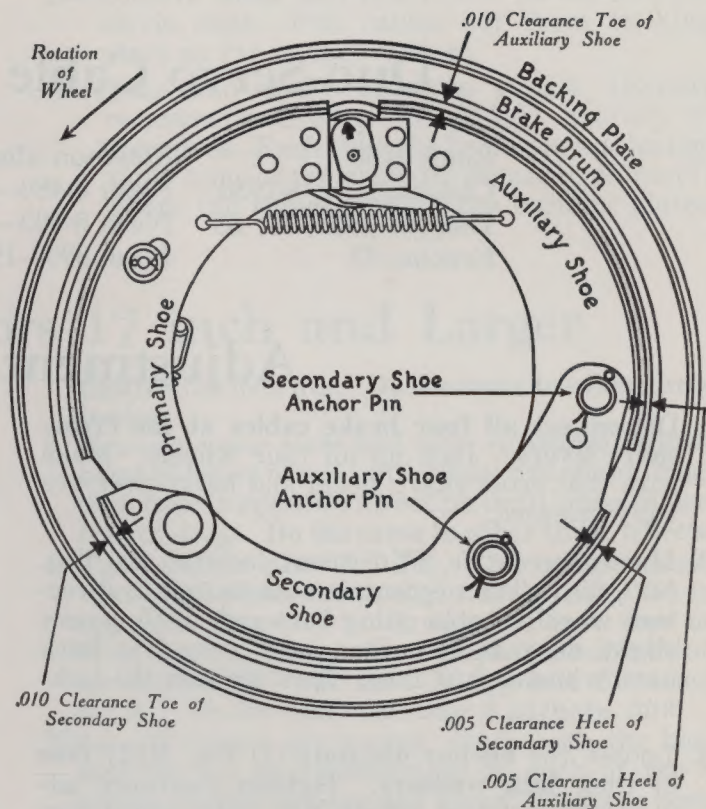

Fig. N21a—Proper heel and toe clearances for best results on most three shoe models
- (c) Using a feeler, adjust eccentric "B" to get .010 in. clearance at toe end (end that is hinged to primary shoe) of secondary shoe. See Fig. N21a.